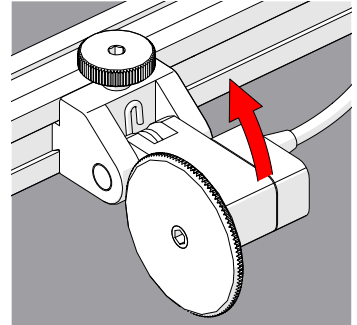

Fig. 27 - Place on scan surface
3. Spring tension maintains encoder contact with the scan surface (Fig. 27).